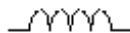

Figure-1: Symbol of an inductor
An inductor is a coil of wire usually wound over a Ferro-magnetic material which can store energy in the form of a magnetic field. The ability of an inductor to store energy is given by its Inductance having the unit Henry (H). Once again Henry is a very large unit and we usually talk about inductance in mH or μH. The symbol of an inductor is shown in figure-1.